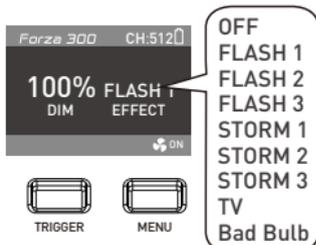

Figure 4
- ④Forza 300 provides 9 different light modes, turn on the fixture to enter the main interface and rotate the "Function Knob" clockwise, the order on the display is"FLASH 1(0.25 seconds)/FLASH 2(1 seconds)/FLASH 3(0.1-6 seconds)/STORM 1 (flash for 7 times continuously) /STORM 2(flash for 7 times continuously)/STROM 3(10-15 seconds in random variations) /TV/Bad Bulb. (As shown in figure 4)